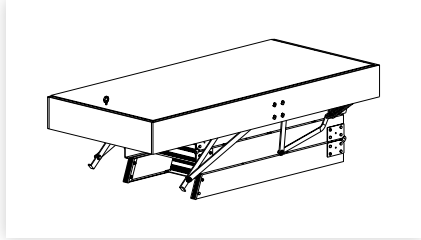

figure 6
3. Fit the screw eye to the pre-drilled hole in lid (figure 6.)